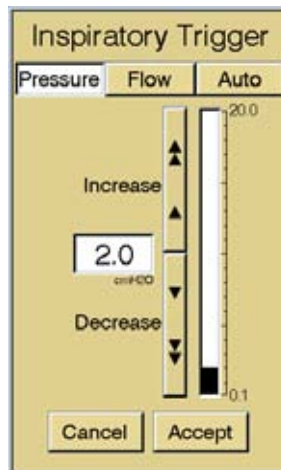
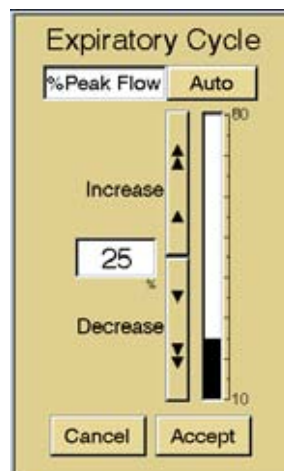

Figure 13-71: Sample Inspiratory Trigger Window with Auto-Trak Option Available (Pressure is not an available option for NPPV)
Figure 13-72: Sample Expiratory Trigger Window with Auto-Trak Option Available.
2. When the I-Trigger or E-Trigger window appears, touch the Auto button (Figure 13-71 and Figure 13-72).